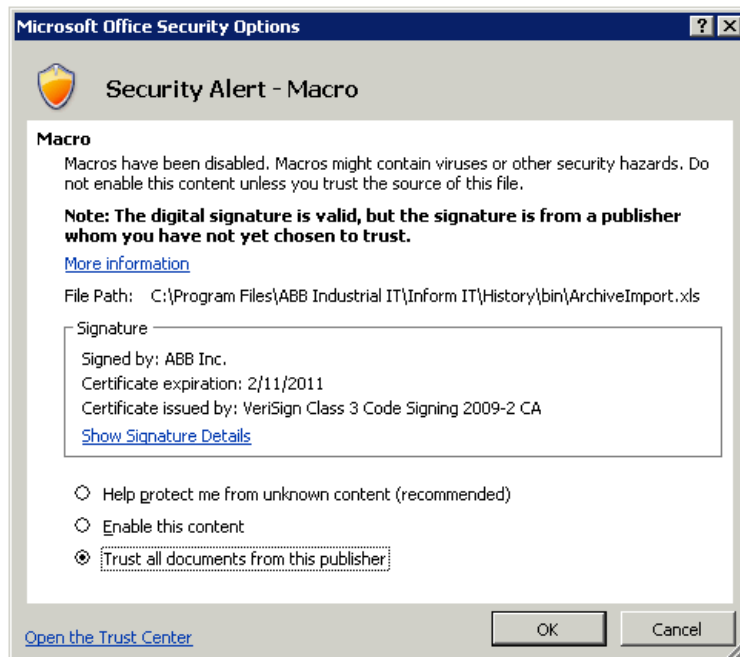

Figure 55. Accepting ABB Inc. as a Trusted Publisher
1. Use the Macro Security Alert to launch the Microsoft Office Security Options dialog box (Figure 55).